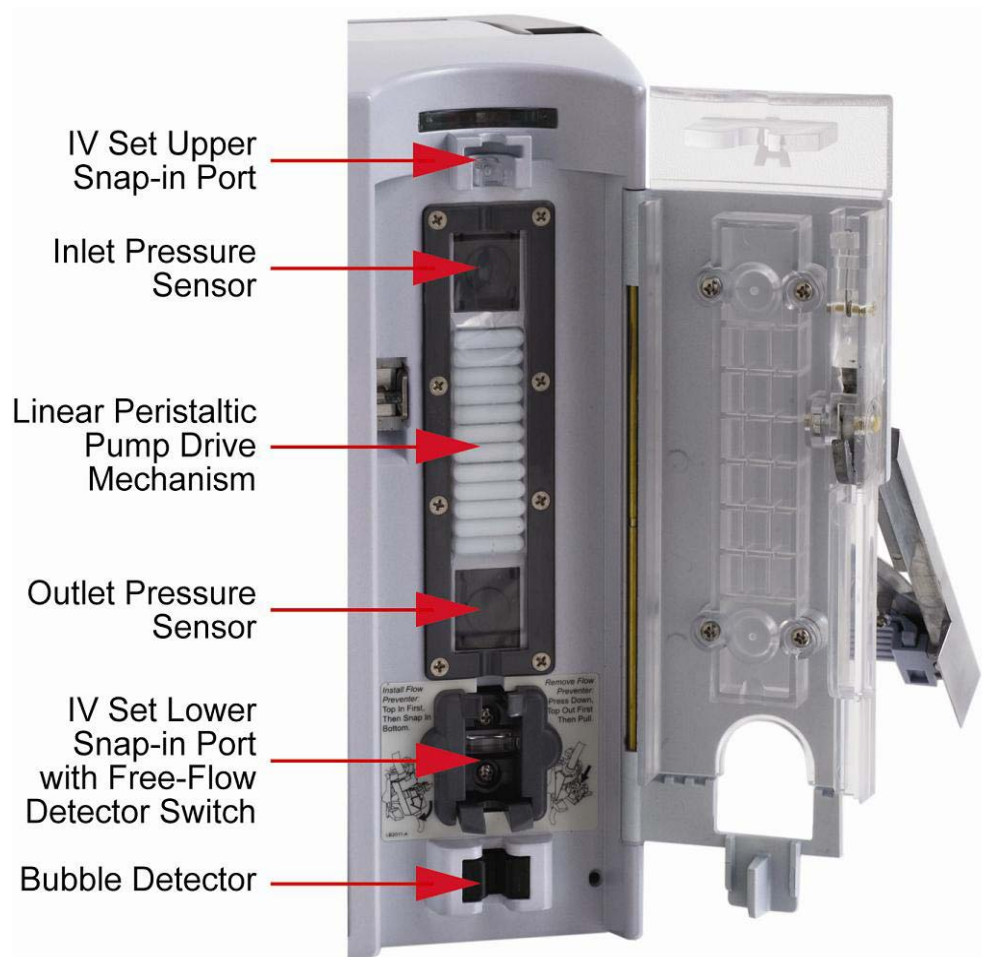

Figure 1-2. Pump Drive Door Open
1.1.2 Pump Drive Mechanism. See Figure 1-2 for location of the major components of the infusion system pump drive mechanism.